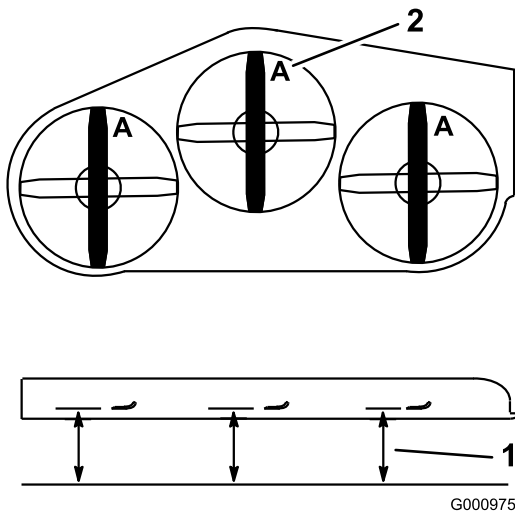

Figure 67
3. Rotate the blades until the ends face forward and backward (Figure 67). Measure from a level surface
to the cutting edge, position **A**, of the blades (Figure 67). Note this dimension.